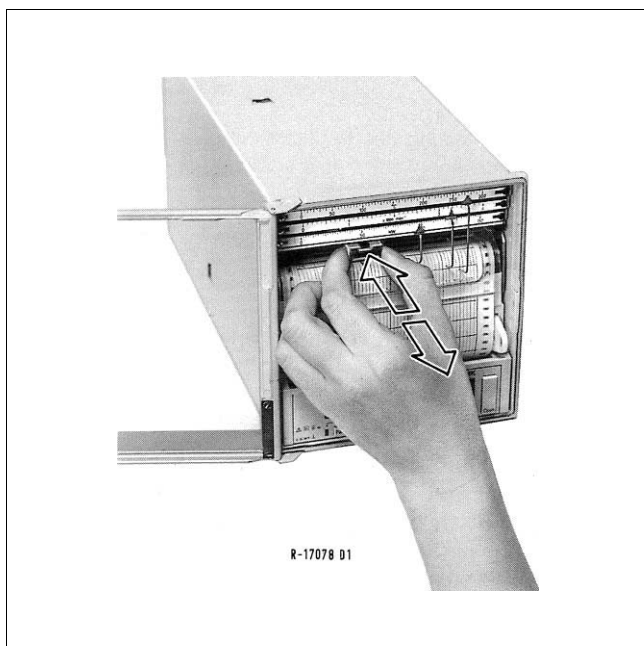

Fig. 12 Print unit
3. Fit the print unit into the chart carriage (see Fig. 12).